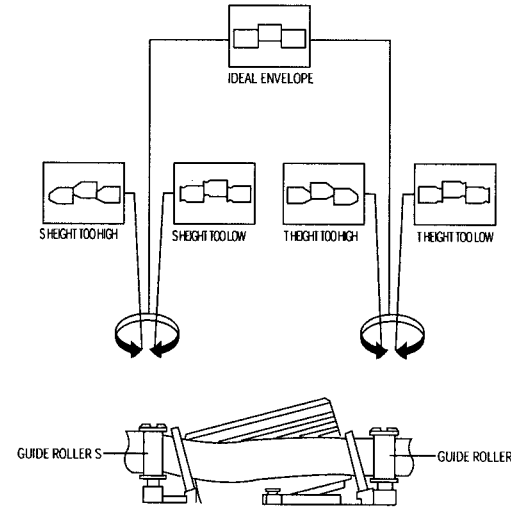

Fig. 6-16 Guide Roller S, T Height Adjustment
- 8) Turn the guide roller heads with a flat head ( ) driver to obtain a flat video RF envelope as shown in Fig. 6-16.